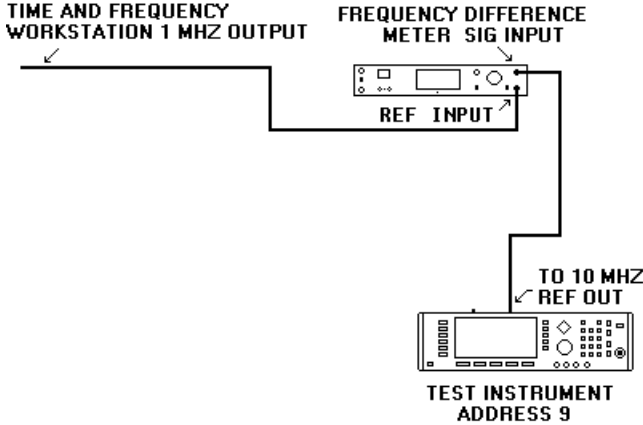

Figure 1. Time base verification connection
d. Connect equipment as shown in figure 1.